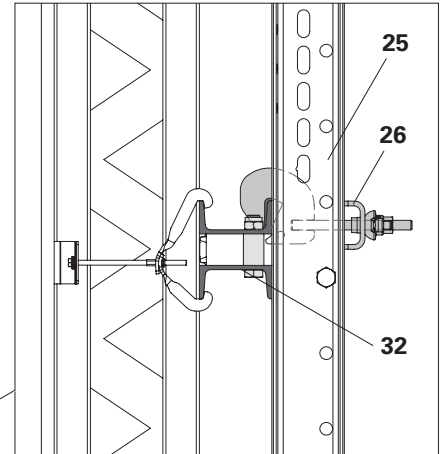
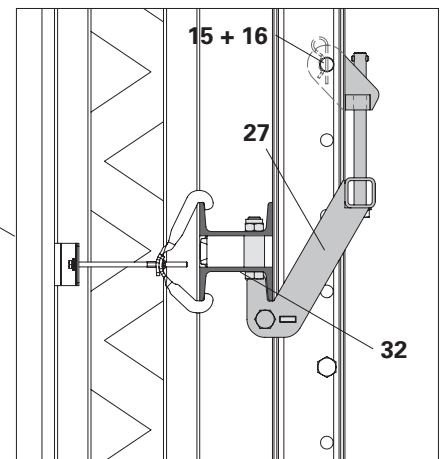

Fig. C1.07a
Fig. C1.07b
2. Fix the Strongback SRU U120 (25) to the upper waler (32) with Waler Fixations SRU (26). (Fig. C1.07a)
3. Pull the outer Height Adjustment Unit SRU (27) over the lower end of the strongback.
4. Fit the upper section of the height adjustment unit into the strongback using filler pins Ø21 (15) and cotter pins 4/1 (16).
5. Spindle the lower section of the adjusting screw AF 30 until it makes contact with the waler. (Fig. C1.07b)